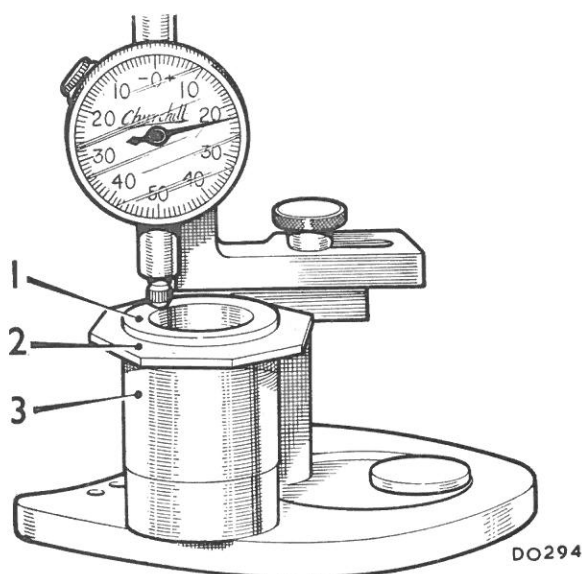

Fig. Aa.15
- (27) Remove the converter oil outlet pipe.
- (28) Fit a new converter housing joint washer and ensure that NO shims are sticking to the input gear bearing. Lubricate the oil seal lip, refit the housing and tighten to the torque figure given in 'GENERAL DATA'. The input shaft nut must not be fitted.
- (29) Remove the converter housing and withdraw the adaptor assembly 18G 1089 A, wax washer, and 18G 1089/1. Substitute this complete assembly for the input gear on the surface plate (see Fig. Aa.15).
- (30) Use the dial test indicator gauge, Service tool 18G 191, and measure the thickness of this assembly (see Fig. Aa.15). The mean reading obtained indicates the total thickness of shims required to eliminate end-float. To this figure add shims to the value of ·001 to ·003 in. (·025 to ·076 mm.) to give the required input bearing pre load.
- (32) (a) Fit the required thickness of shims as calculated in item (30) onto the outside of the input gear (see Fig. Aa.15).